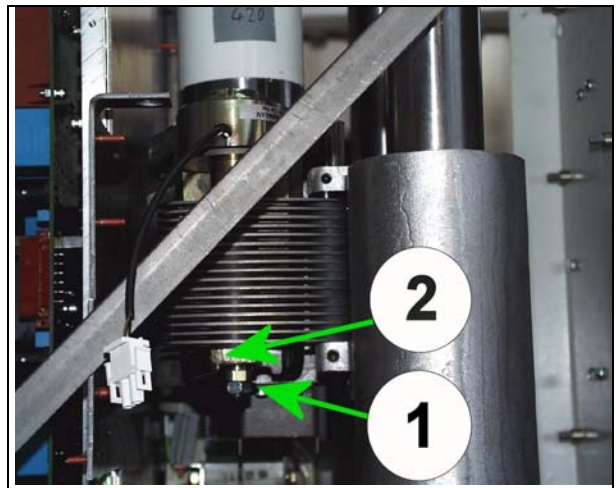

Fig. 3
- Loosen the grub screw 2 / Fig. 3 in the axle guide of the holder.
- Unscrew the nuts and lock nuts completely 1/ Fig. 3.
The new swivel brake is equipped with a smaller nut and lock nut (position see 1/ Fig.3). In this way these do not have to be removed on the swivel brake when installing.
- Insert the new brake in the axle guide of the holder (see 1/ Fig. 3).